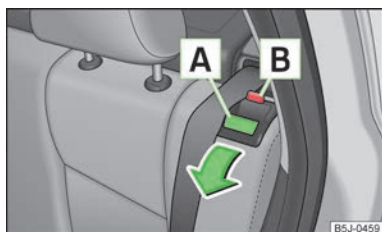

Fig. 41
- Unlock the seat backrest by pressing the securing knob **A** » Fig. 41 and fold it forwards.